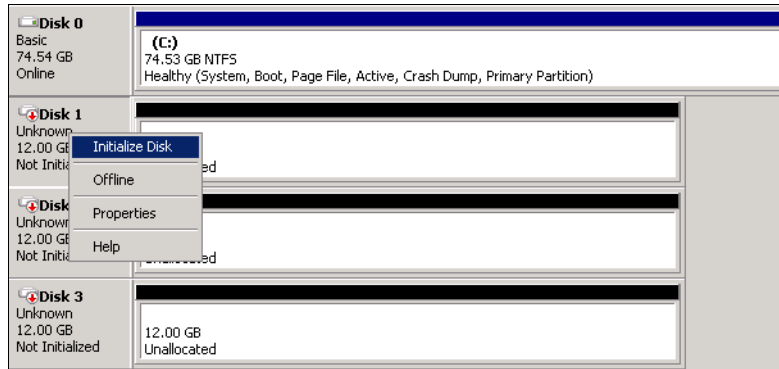

Figure 7-12 Windows Server 2008 R2: Initialize Disk
- 8. Right-click one disk again and select **Initialize Disk** (Figure 7-12 on page 290).